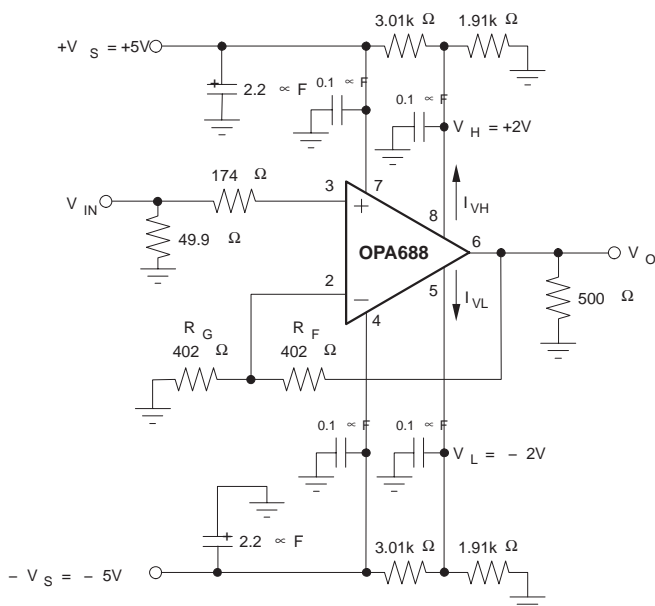
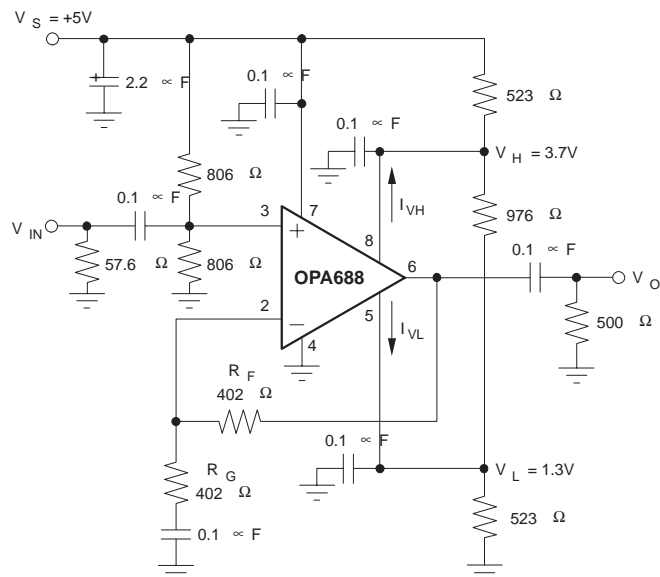
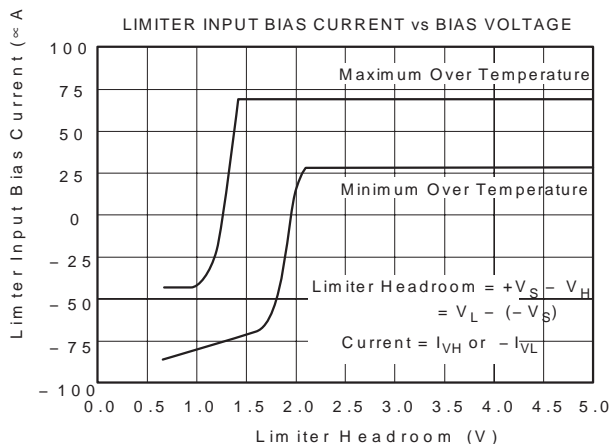

Figure 30. DC-Coupled, Dual Supply Amplifier
Figure 31. AC-Coupled, Single Supply Amplifier
Figure 37. Limiter Bias Current vs Bias Voltage
4. I_{VH} (V_H bias current) is positive, and I_{VL} (V_L bias current) is negative, under these conditions. See Note 3, Figure 31 and Figure 37.
Figure 30 shows a non-inverting gain amplifier for dual-supply operation. This circuit was used for AC characterization of the OPA688, with a 50-Ω source, which it matches, and a 500-Ω load. The power-supply bypass capacitors are shown explicitly in Figures 30 and 31, but will be assumed in the other figures. The limiter voltages (V_H and V_L) and their bias currents (I_{VH} and I_{VL}) have the polarities shown.
Figure 31 shows an AC-coupled, non-inverting gain amplifier for single +5V supply operation. This circuit was used for AC characterization of the OPA688, with a 50W source, which it matches, and a 500-Ω load. The power-supply bypass capacitors are shown explicitly in Figures 30 and 31, but will be assumed in the other figures. The limiter voltages (V_H and V_L) and their bias currents (I_{VH} and I_{VL}) have the polarities shown. Notice that the single-supply circuit can use three resistors to set V_H and V_L , where the dual-supply circuit usually uses four to reference the limit voltages to ground.
The OPA688 is nominally specified for operation using either ± 5 -V supplies or a single +5-V supply. The maximum specified total supply voltage of 12 V allows reasonable tolerances on the supplies. Higher supply voltages can break down internal junctions, possibly leading to catastrophic failure. Single-supply operation is possible as long as common mode voltage constraints are observed. The common mode input and output voltage specifications can be interpreted as a required headroom to the supply voltage. Observing this input and output headroom requirement will allow design of non-standard or single-supply operation circuits. Figure 31 shows one approach to single-supply operation.
When pins 5 and 8 are left open, V_H and V_L go to the Default Voltage Limit; the minimum values are in the Specifications. Looking at Figure 37 for the zero bias current case will show the expected range of $(V_S - \text{default limit voltages}) = \text{headroom}$.
When the limiter voltages are more than 2.1V from the supplies ($V_L > -V_S + 2.1 \text{ V}$ or $V_H < +V_S - 2.1 \text{ V}$), you can use simple resistor dividers to set V_H and V_L (see Figure 30). Make sure you include the Limiter Input Bias Currents (Figure 37) in the calculations (i.e., $I_{V_L} \geq -50 \mu\text{A}$ out of pin 5, and $I_{V_H} \leq +50 \mu\text{A}$ out of pin 8). For good limiter voltage accuracy, run at least 1-mA quiescent bias current through these resistors.
When the limiter voltages need to be within 2.1V of the supplies ($V_L \leq -V_S + 2.1 \text{ V}$ or $V_H \geq +V_S - 2.1 \text{ V}$), consider using low impedance buffers to set V_H and V_L to minimize errors due to bias current uncertainty. This will typically be the case for single supply operation ($V_S = +5\text{V}$). Figure 31 runs 2.5 mA through the resistive divider that sets V_H and V_L . This keeps errors due to I_{V_H} and $I_{V_L} < \pm 1\%$ of the target limit voltages.